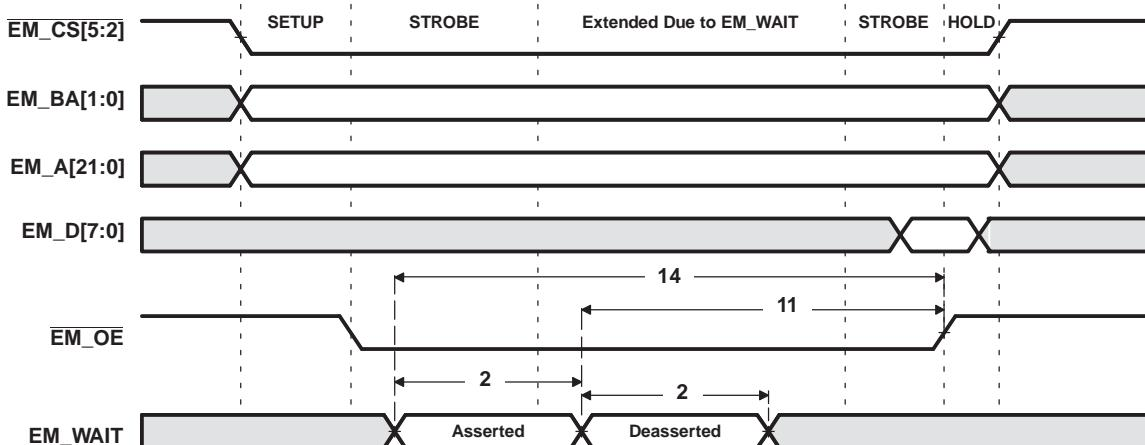
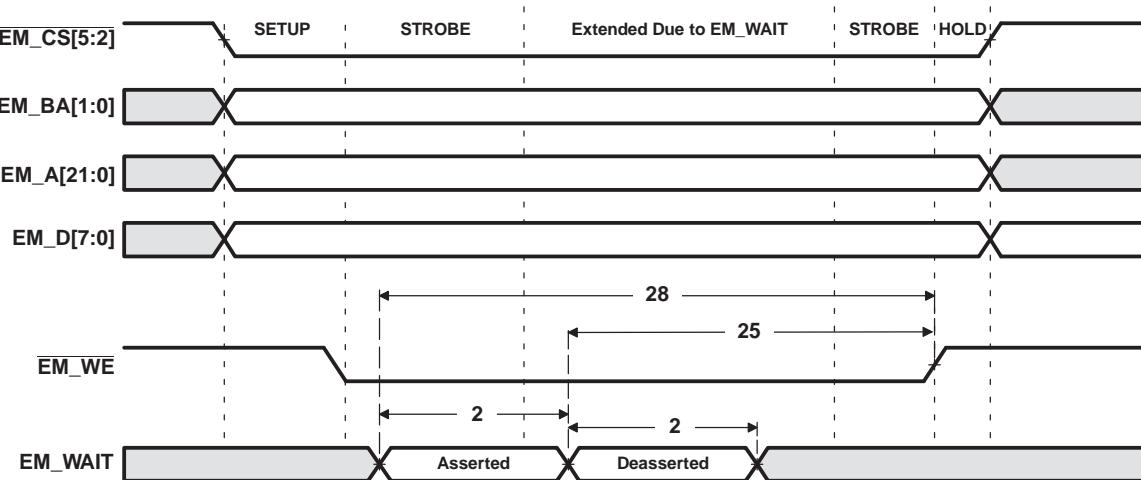

Figure 6-16. EM_WAIT Read Timing Requirements
Figure 6-17. EM_WAIT Write Timing Requirements
(1) E = SYSCLK3 period in ns for EMIFA. For example, when running the DSP CPU at 300 MHz, use E = **20** ns.
(2) Setup before end of STROBE phase (if no extended wait states are inserted) by which EM_WAIT must be asserted to add extended wait states. Figure 6-16 and Figure 6-17 describe EMIF transactions that include extended wait states inserted during the STROBE phase. However, cycles inserted as part of this extended wait period should not be counted; the 4E requirement is to the start of where the HOLD phase would begin if there were no extended wait cycles.